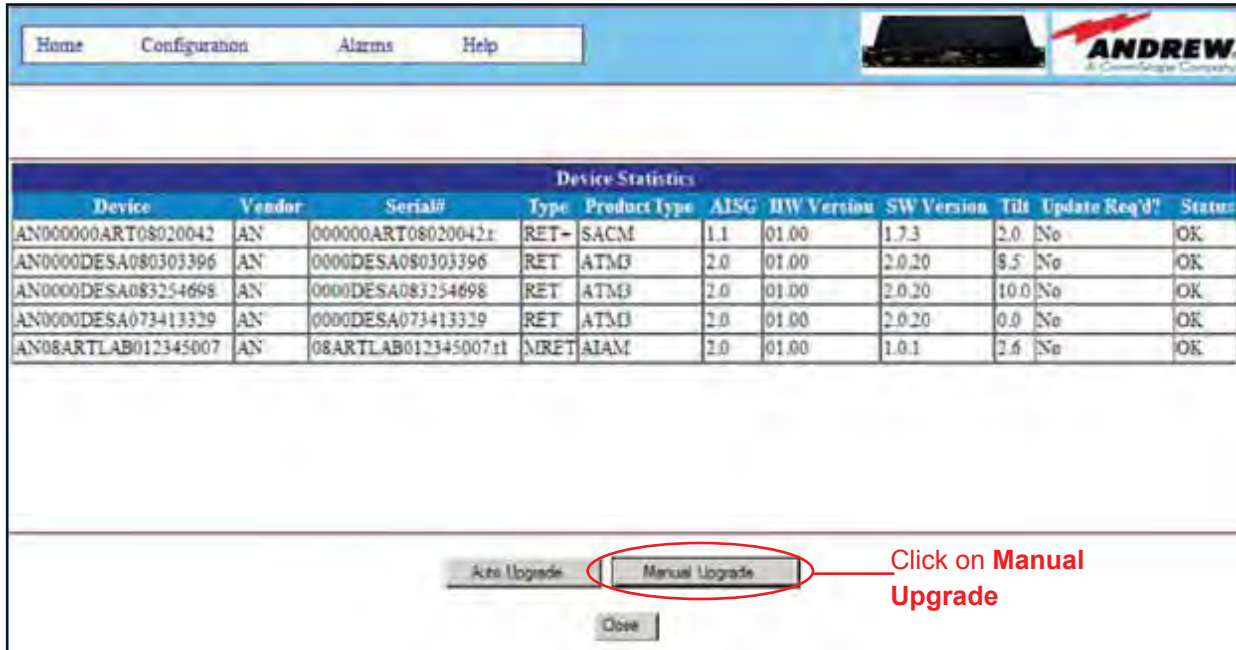

Figure C-7. Manually Upgrading AISG-Compliant Devices.
3. Note the Product Type of the AISG devices in the database. Generally, a device firmware file will be appropriate for only one Product Type. Click on **Manual Upgrade** (Figure C-7).